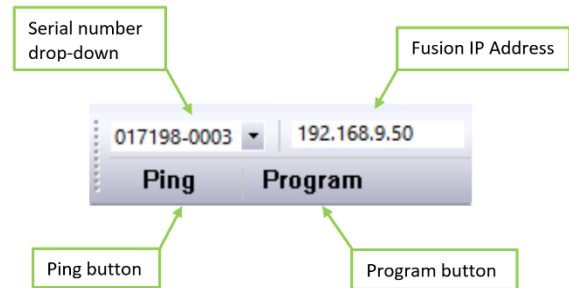
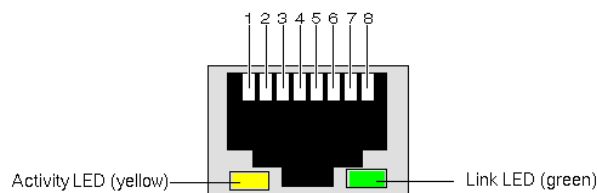

Figure 77 - Programming Toolbar
Figure 84 - Ethernet Port LEDs
- The serial number selected in Interlock Builder (Figure 77) is incorrect.
- When the cable is properly connected, the green Link LED on the Ethernet ports (Figure 84) of both the computer and the Fusion device is either solid or flashing. Clicking “Ping” in Interlock Builder (Figure 77) causes this LED to flash when there is a good connection.